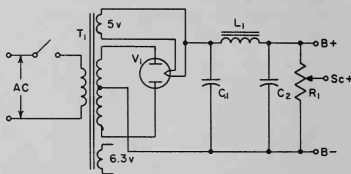

Fig. 10-10. Schematic diagram of a power supply.
1. If you have had instruction in electronics, try your skill at drawing a wiring diagram of the power supply illustrated by the schematic diagram, Fig. 10-10.